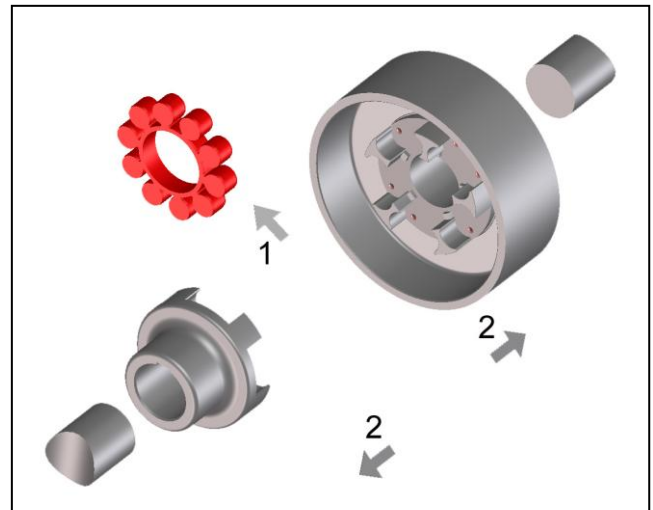

Fig. 3
- Remove the elastic buffer ring (Fig. 3, pos. 1).
- Mount the coupling hub complete in the proper position on the shaft ends (Fig. 3, pos.2).